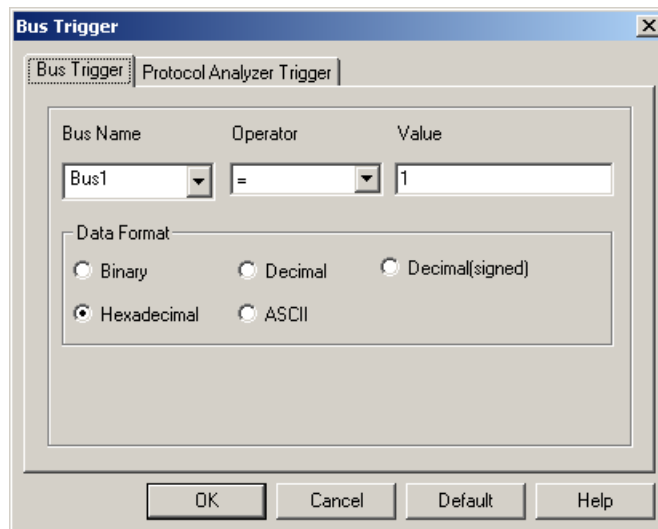

Fig 4-30 – Bus Trigger Setup
1. Highlight the Bus which will be triggered then click  icon or select **Bus Trigger Setup** from the Trigger of the Menu Bar, the dialog box as shown in Fig 4-30 will appear.
2. Set Binary, Hexadecimal, Decimal, Decimal (signed) or ASCII as the Data Format of the Bus to represent the value (see Fig 4-30).